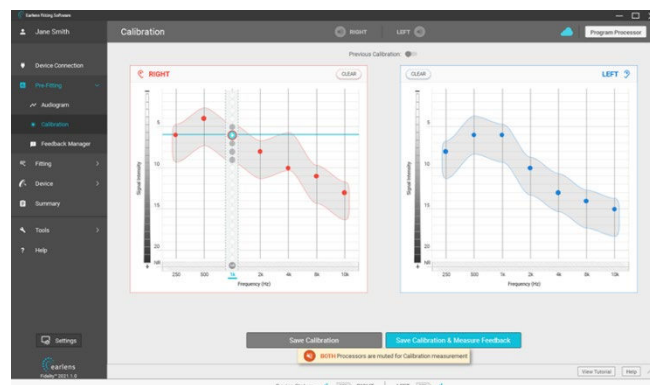

Figure 26: Calibration screen
- Keyboard: Selecting the "Play tone" (blue) button on the calibrator by pressing the space bar (Figure 26). Use the keyboard up and down arrow or the mouse to select the level and then use the same techniques you would to obtain audiometric thresholds. Once you have obtained a threshold, press enter to save the data.